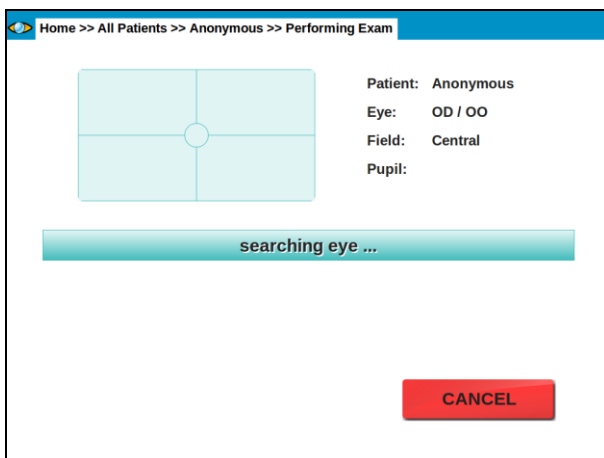

Figure 7 - Automatic eye search in progress
- Move the optical head to locate the patient's pupil (see Figure 7);